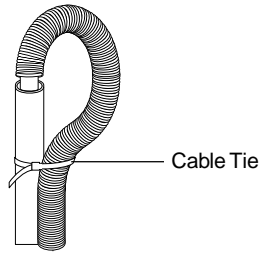

Figure 3
**C.** Secure the hose as shown in Figures 3 Standpipe, 4 Tub, 5 In wall standpipe.